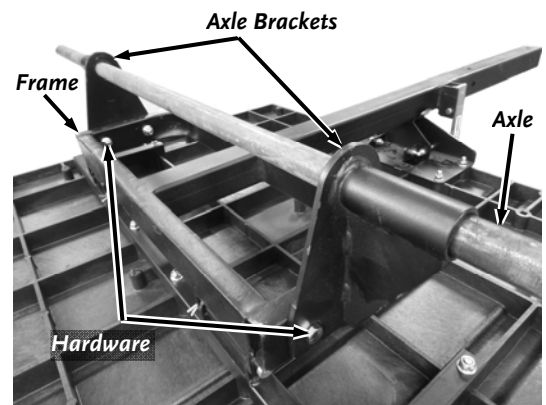

Figure 9
1. Tip the Cart over to access the Frame (Figure 9).